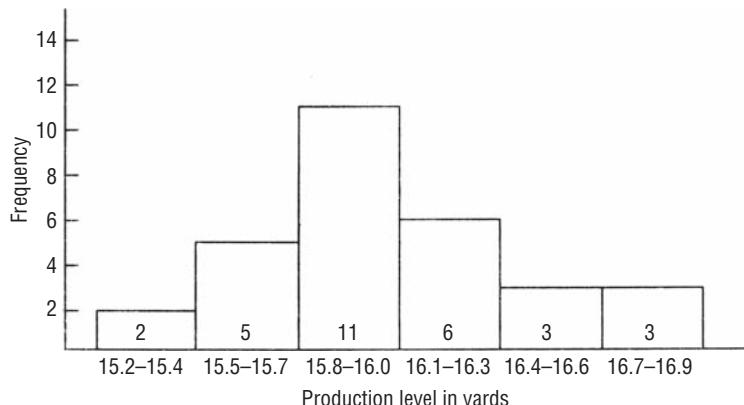
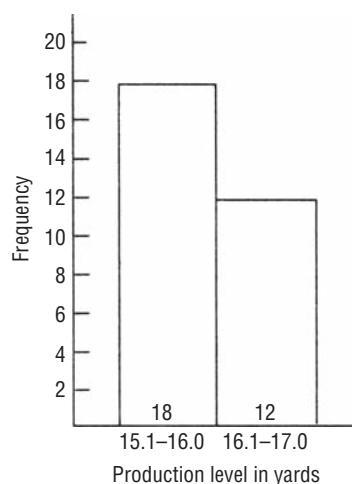

FIGURE 2-1 FREQUENCY DISTRIBUTION OF PRODUCTION LEVELS IN A SAMPLE OF 30 CARPET LOOMS USING 0.3-YARD CLASS INTERVALS
FIGURE 2-2 FREQUENCY DISTRIBUTION OF PRODUCTION LEVELS IN A SAMPLE OF 30 CARPET LOOMS USING 1-YARD CLASS INTERVALS
3. **Illustrate the data in a chart.** (See Figure 2-1.)
These three steps enable us to arrange the data in both tabular and graphic form. In this case, our information is displayed in Table 2-14 and in Figure 2-1. These two frequency distributions omit some
Notice in Figure 2-1 that the frequencies in the classes of 0.3-yard widths follow a regular progression: The number of data points begins with 2 for the first class, builds to 5, reaches 11 in the third class, falls to 6, and tumbles to 3 in the fifth and sixth classes. We will find that the larger the width of the class intervals, the smoother
this progression will be. However, if the classes are too wide, we lose so much information that the chart is almost meaningless. For example, if we collapse Figure 2-1 into only two categories, we obscure the pattern. This is evident in Figure 2-2.